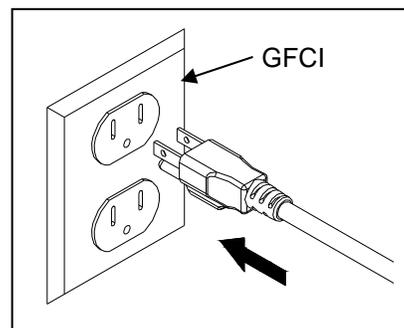

Fig. 10
- Connect the pump to a proper power source. Fig. 10